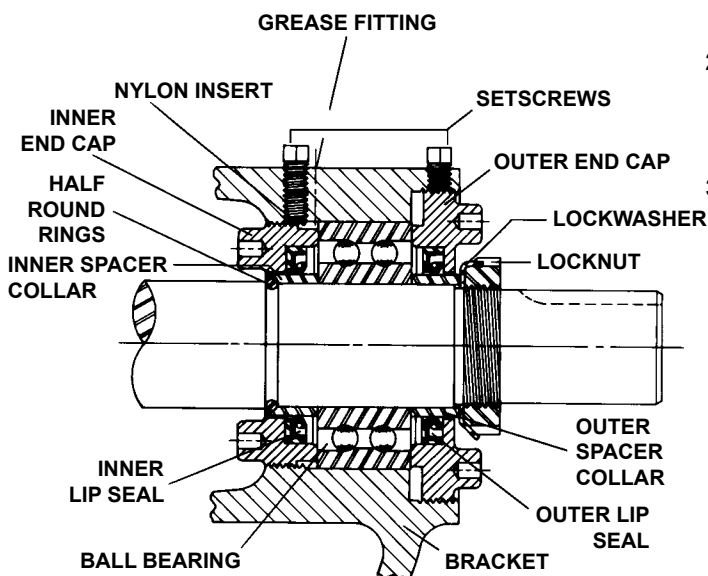

FIGURE 7
5. Tap shaft forward approximately 0.5 inch and remove pair of half round rings under inner spacer collar. There is no pair of half round rings on Q, QS and M size pumps. **Refer to Figure 7.**
9. Loosen the four setscrews over the outer and inner end caps. Remove both end caps, spacer collars and ball bearing. **Refer to Figure 7.** The inner end cap can be removed through the side openings in the bracket.
Place pair of half round rings on shaft and slide inner bearing spacer collar over half round rings to lock them in place. There is no pair of half round rings on Q, QS and M size pumps. **Refer to Figure 7, page 8.**
9. Press lip seal, lip facing end of shaft, in inner end cap and insert end cap through shaft end of bracket. Turn end cap clockwise, looking at shaft end, until it engages threads. End cap spanner wrench holes must be facing rotor. Turn end cap with spanner wrench until it projects slightly from opening on side of bracket. End cap must not be turned so far that lip seal drops off end of spacer collar on shaft or end cap becomes disengaged from threads. **Refer to Figure 7, page 8.**
11. Press lip seal, lip facing end of shaft, in outer end cap and insert end cap in bracket. Turn end cap in bracket until it is tight against bearing. **Refer to Figure 7, page 8.**
12. Put lockwasher and locknut on shaft. Insert length of hardwood or brass through port opening between rotor teeth to keep shaft from turning. Tighten locknut to 120-150 ft.- lbs. Torque (LS) or 170-190 ft. - lbs. Torque (Q, QS, M). Bend one tang of lockwasher into slot of locknut. If tang does not line up with slot, tighten locknut until it does. Failure to tighten locknut or engage lockwasher tang could result in early bearing failure and cause damage to rest of pump.